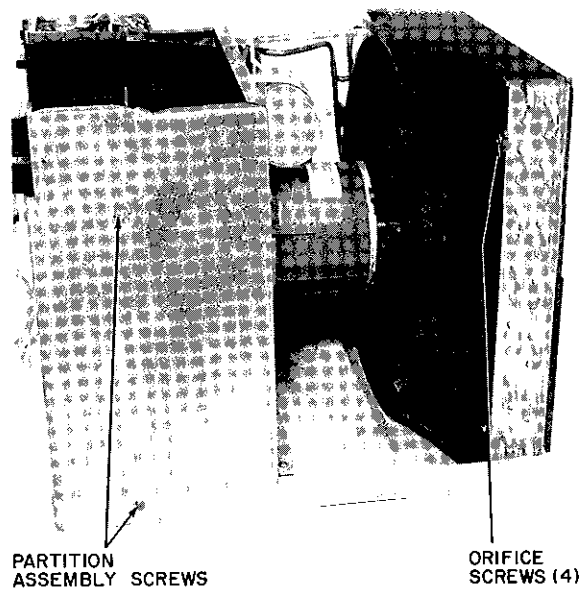

Fig. 15 — Partition and Orifice Assembly Screws
- c Remove condenser orifice by removing 4 screws holding condenser orifice to the tube sheet as shown in Fig 15 and 18.
- c Remove 2 side screws fastening partition assembly to basepan and partition assembly to evaporator coil tube sheet. See Fig 15.
- d Remove 2 back screws which hold partition assembly to basepan. See Fig 15.
- f Remove 4 screws which fasten condenser orifice to tube sheet. See Fig. 15 and 18